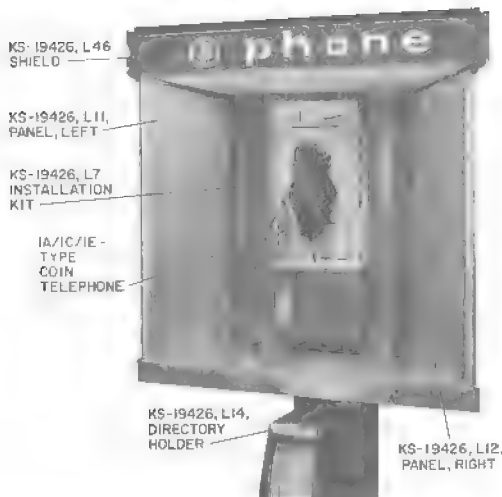

Fig. 10—KS-19426 Mounting Using 1-Type Coin Telephone Set
2.08 The light shield (Fig. 10) is a translucent panel which illuminates the coin telephone set, writing shelf, and surrounding area. The light shield is available in various options as follows:
List 7 installation kit. This kit consists of mounting screws, left and right side shrouds, and associated brackets (Fig. 10).